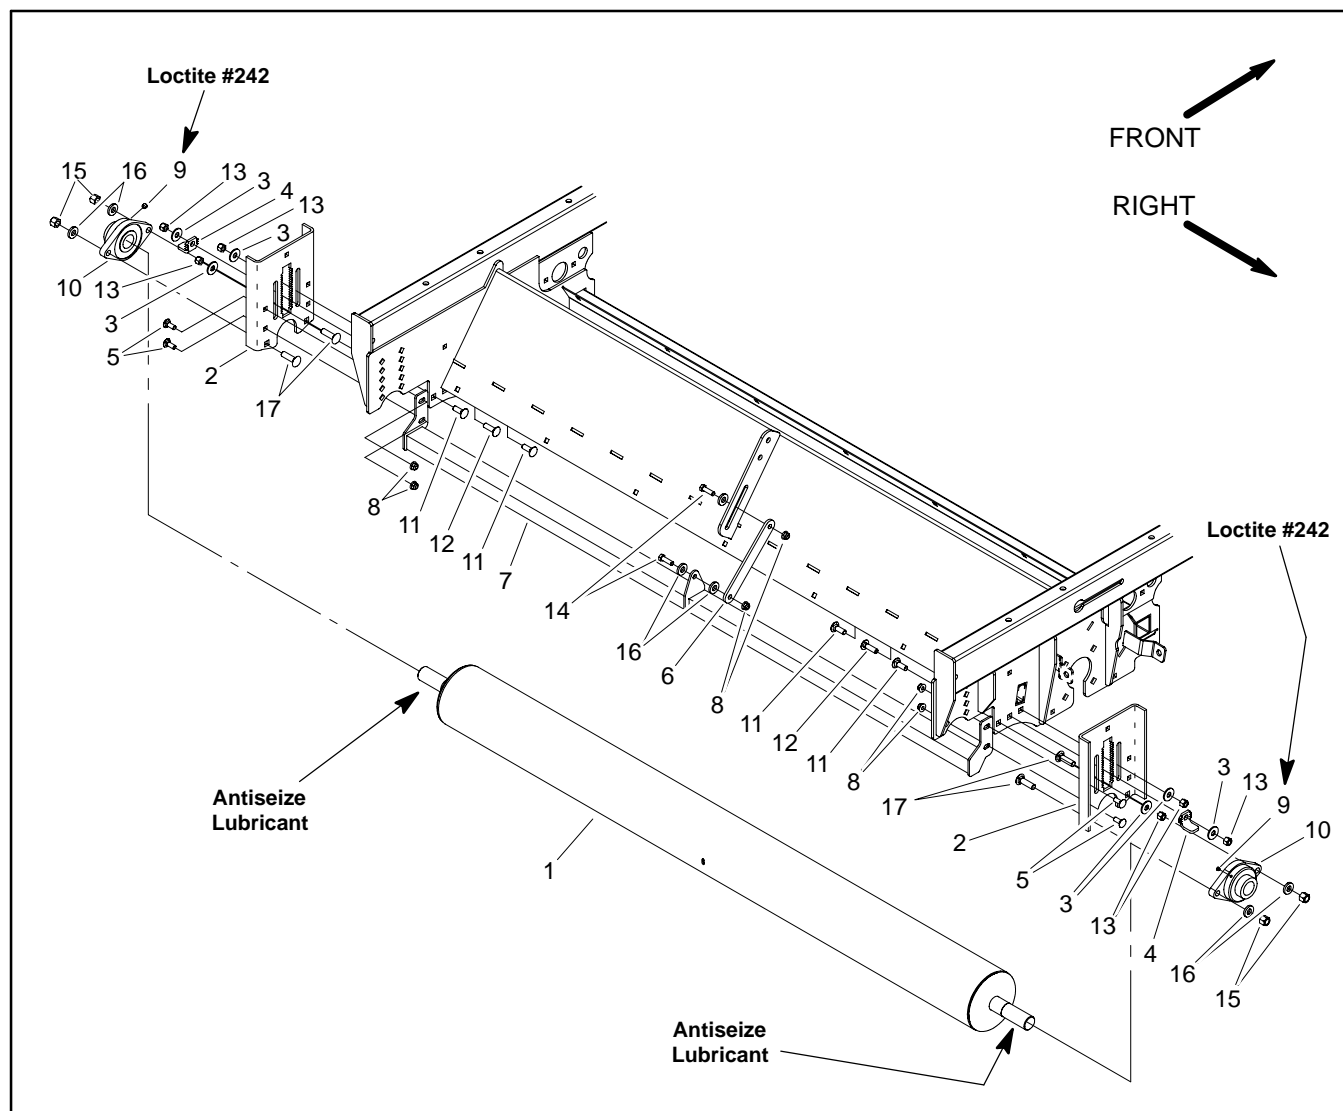

Figure 38
Removal (Fig. 38)
Installation (Fig. 38)
2. On both sides of machine, remove two (2) cap screws and flange nuts that secure pivot (item 9) to machine frame. Slide pivot from rear cover subframe pivot.
3. On both sides of machine, remove two (2) cap screws, flat washers and flange nuts that secure rear cover subframe hoop (item 2) to machine frame.
4. Remove two (2) carriage screws and flange nuts that secure rear cover pivot components (items 10 and 14) to chopper housing.
6. Disassemble rear cover assembly as necessary using Figure 38 as a guide.
1. Assemble rear cover using Figure 38 as a guide.